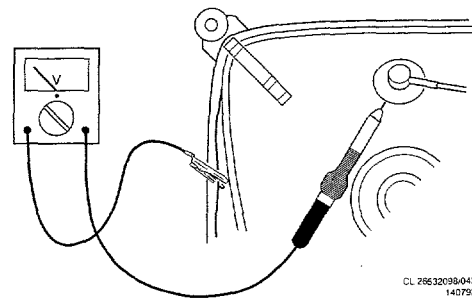

Fig. 3.1
1. In order to prevent damage to IC's and transistors, all high-voltage flashovers must be avoided. In order to prevent damage to the picture tube, it should be discharged using the method shown in Fig.3.1. Use a high-voltage probe and a multimeter (position DC-V). Discharge until the meter reading is 0V (after approx. 30s).